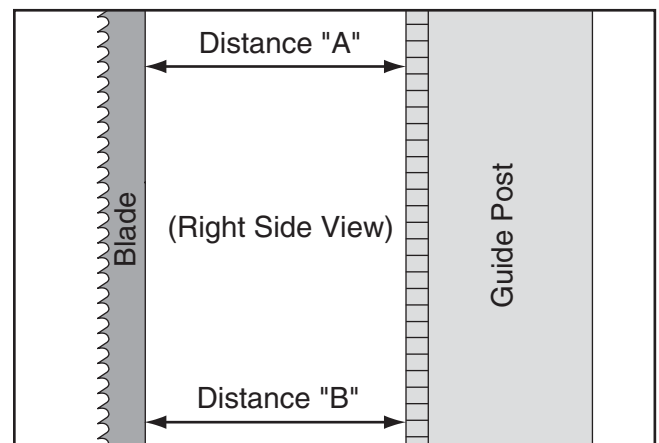

Figure 80. Example of measuring distance between rack and blade at top of guide post.
7. Measure the distance "A" between the top front face of the guide post rack and the back of the blade (see **Figure 80**).
8. Measure the distance "B" between the bottom front face of the guide post rack and the back of the blade (see **Figure 80**).